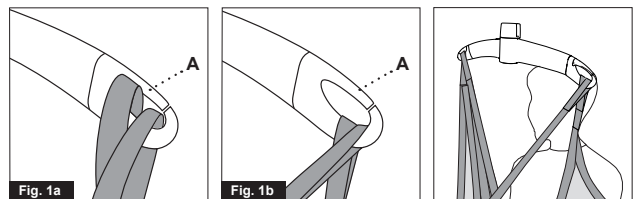

Fig. 1a Fig. 1b
Be careful when attaching the lifting sling on the hooks. Check that the straps have been pulled completely through the rubber safety catch (A) and into place in the lifting hanger's hooks. When pressing the up button to lift the user, check again that all the straps remain correctly placed in the lifting hanger's hooks (fig. 1a and fig. 1b).